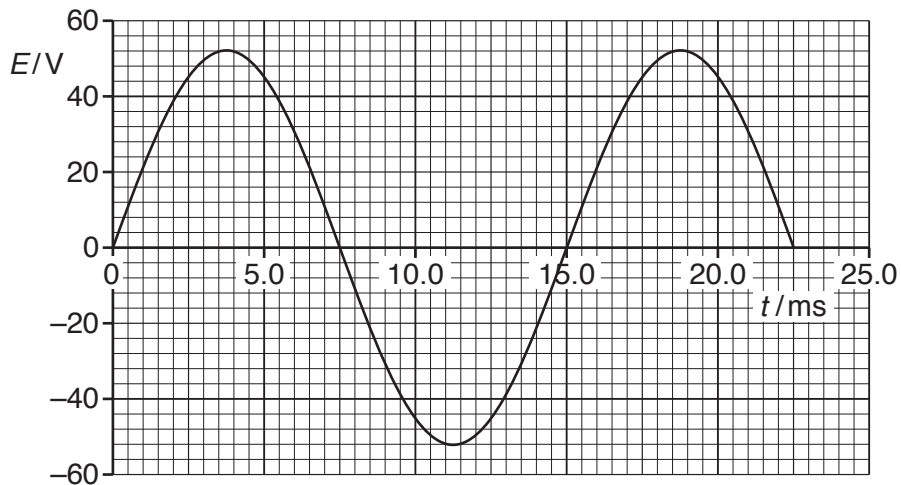

Fig. 9.2
- (b) An alternating voltage of peak value 150 V is applied across the 1200 turns of the primary coil. The variation with time t of the e.m.f. E induced across the secondary coil is shown in Fig. 9.2.
Use data from Fig. 9.2 to
- (c) A resistor is connected between the output terminals of the secondary coil. The mean power dissipated in the resistor is 1.2 W. It may be assumed that the varying voltage across the resistor is equal to the varying e.m.f. E shown in Fig. 9.2.